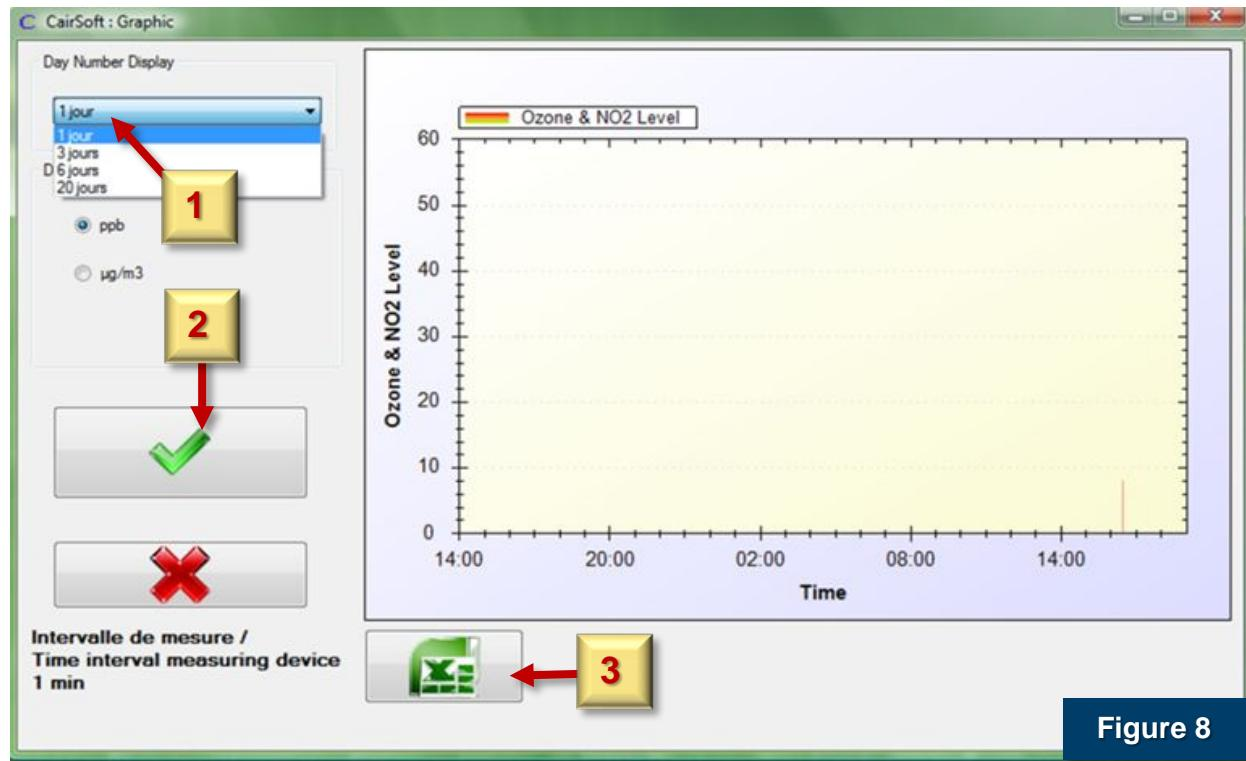

Figure 8
4. Choose the time period for the data you want to retrieve from the drop-down menu ([1] in Figure 8), and confirm your selection by pressing the green **Check** button [2]. Options for time periods are 1, 3, 6, and 20 days (jours).
5. Double click the **Excel** logo [3] below the graph display area in Figure 8, and save the file in the desired location. Be sure to include the date in the file name for easy identification.